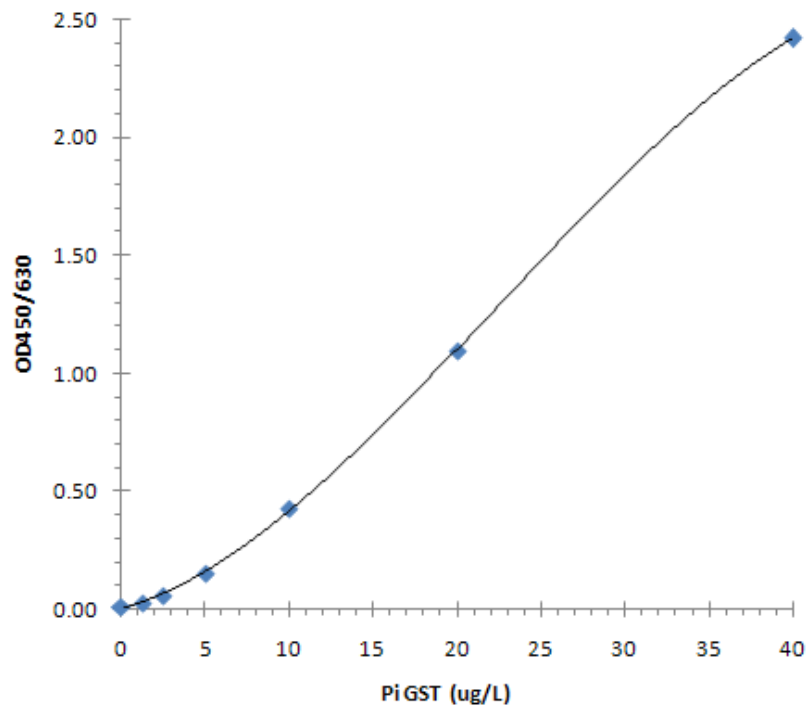

Figure 1: Typical Calibration Curve obtained using the Argutus Medical Pi GST EIA. Lin-lin plot of $A_{450/630\text{nm}}$ Versus $[\pi\text{GST}]\mu\text{g/L}$.
2. Plot a calibration curve of $A_{450/630nm}$ versus $[\pi\text{GST}] \mu\text{g/L}$ (linear plot). (See Figure 1)